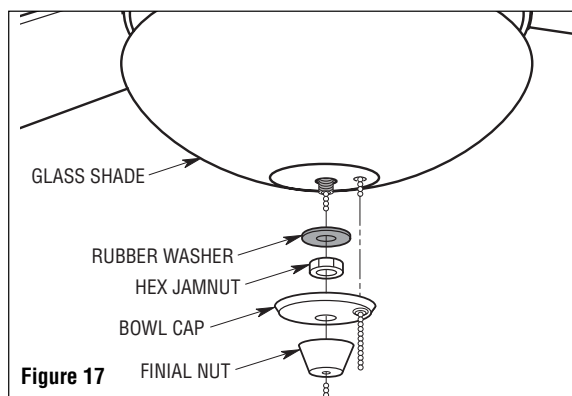

Figure 17
2. Unscrew the finial nut, bowl cap, hex jamnut and rubber washer from the light kit threaded nipple (Figure 17).
4. Reinstall the rubber washer, hex jamnut, bowl cap and finial nut onto the threaded nipple (Figure 17).